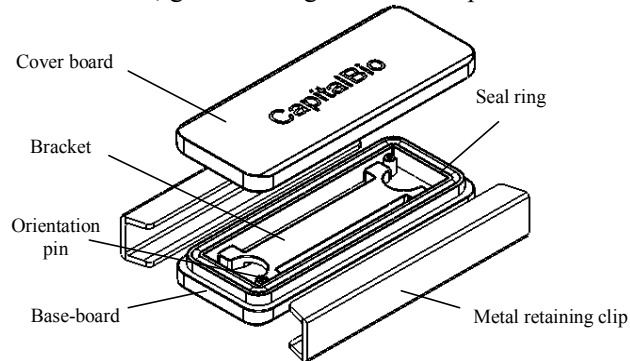

Fig. 1 HybSet™ components
Each HybSet™ consists of a grooved base-board, two brackets, a sealing ring (gasket), a cover board, and two metal retaining clips (**Fig. 1**). The sealing ring and metal clips ensure that the hybridization chamber remains closed and watertight in the waterbath, guaranteeing uniform temperature and humidity.
2. Check that the sealing ring is set evenly in the perimeter groove of the base board and that it is intact (no nicks or breaks) (**Fig. 1**). Reset the sealing ring if it is not correctly seated in the groove. A broken sealing ring must be replaced before use.